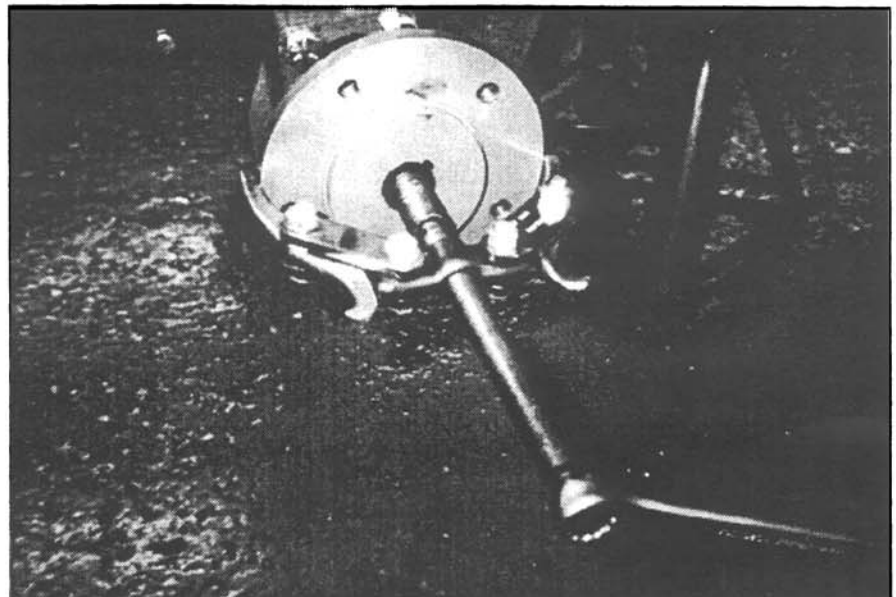

FIGURE 9
6. Remove the right tire assembly. Loosen the 3/4" lock nut, use gear puller to loosen hub. Remove lock nut, washer, hub and key. Repeat on left side if the differential (#8 shaft assembly) is to be removed. See Figure 9.